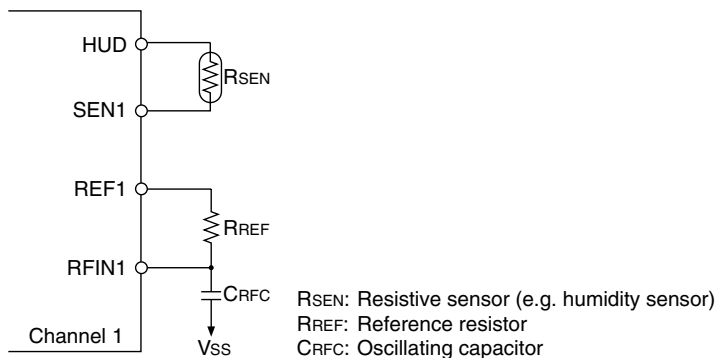

Figure 16.3.3 Connection diagram of resistive humidity sensor
(2) R/F conversion using an AC bias resistive sensor such as a humidity sensor
This conversion is possible only in channel 1, and this method is selected by setting ERF[1:0] to "2." This is basically the same as the R/F conversion described above (1), but the AC bias circuit works for a sensor (e.g. humidity sensor) to which DC bias cannot be applied for a long time. The oscillating operation by reference resistance is the same as the R/F conversion described above (1). Figure 16.3.3 shows the connection diagram of external devices.